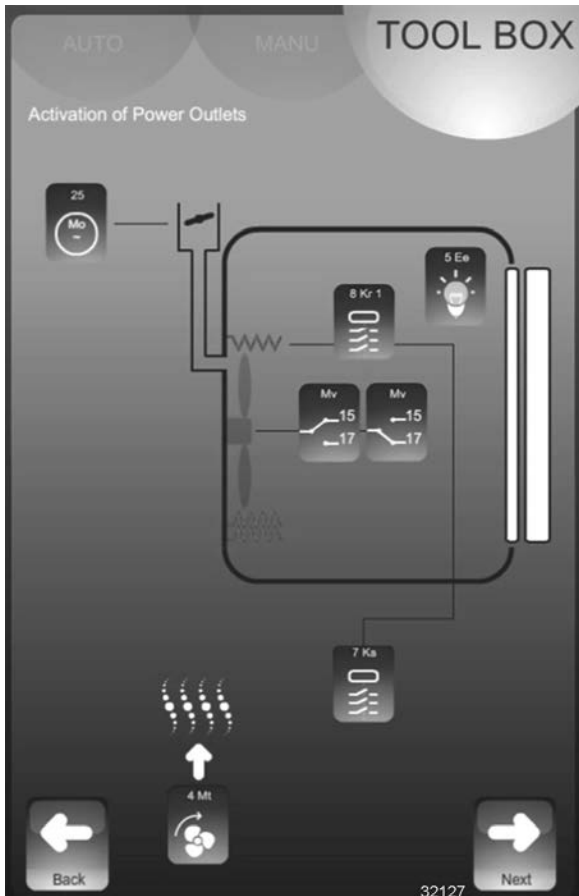

Fig. 99
7. Select **Next** icon to show **Activation of Power Outputs** screen (Fig. 99). Additional information is available in .